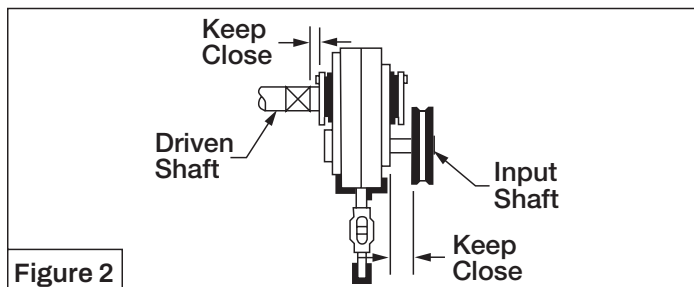

Figure 2
4. Install sheave on input shaft as close to reducer as practical (see Figure 2).